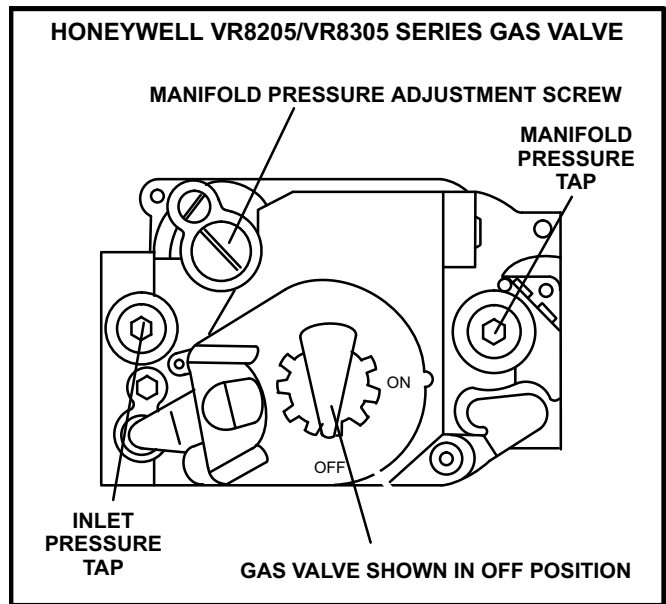

FIGURE 8
GAS VALVE OPERATION FOR HONEYWELL VR8205/VR8305 SERIES GAS VALVE (FIGURE 8)
- 2 - After line pressure has been checked and adjusted, check regulator pressure. Adjust manifold pressure to values specified on the unit rating plate. See figures 8, 9, and 10 for gas pressure adjustment screw location. A natural gas to LP/propane gas changeover kit is required to convert unit in the field. Refer to installation instructions provided with changeover kit for conversion procedure.